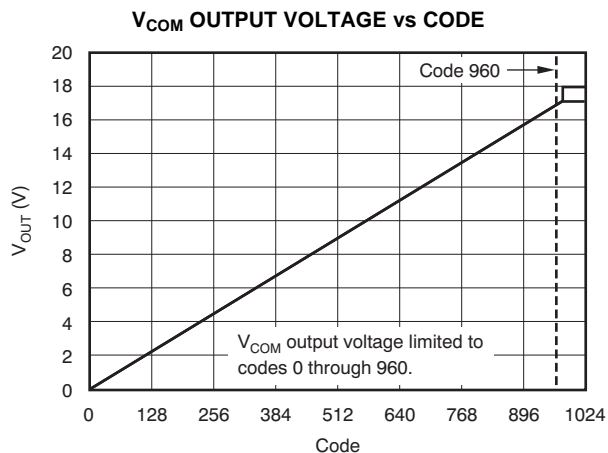

Figure 3.
(4) The V_{COM} output voltage is limited to codes 0 through 960; see Figure 3. This limitation is for V_{COM} only and does not affect DAC OUT, 1 through 8.
(5) Thermal pad attached to printed circuit board (PCB), 0l/m airflow, and 76mm \times 76mm copper area.